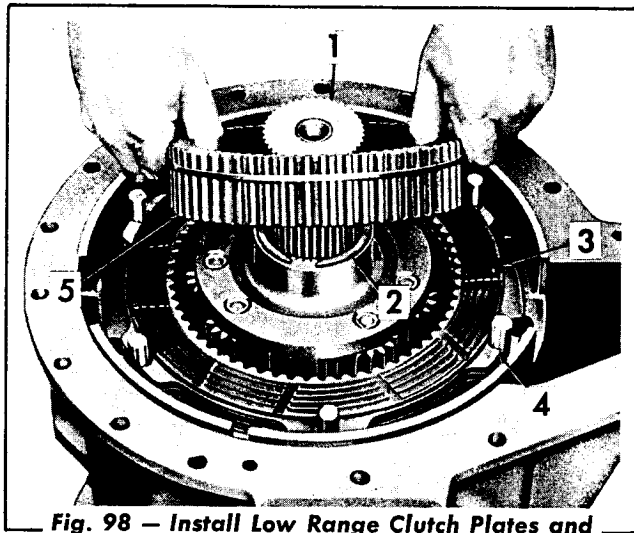

Fig. 98 – Install Low Range Clutch Plates and Ring Gear
14. Grasp the shaft (Fig. 98) and pull upward to install the snap ring. Beginning with an internal splined plate, alternately install four internal and three external splined low range clutch plates. Install the low range ring gear with the short splines up.